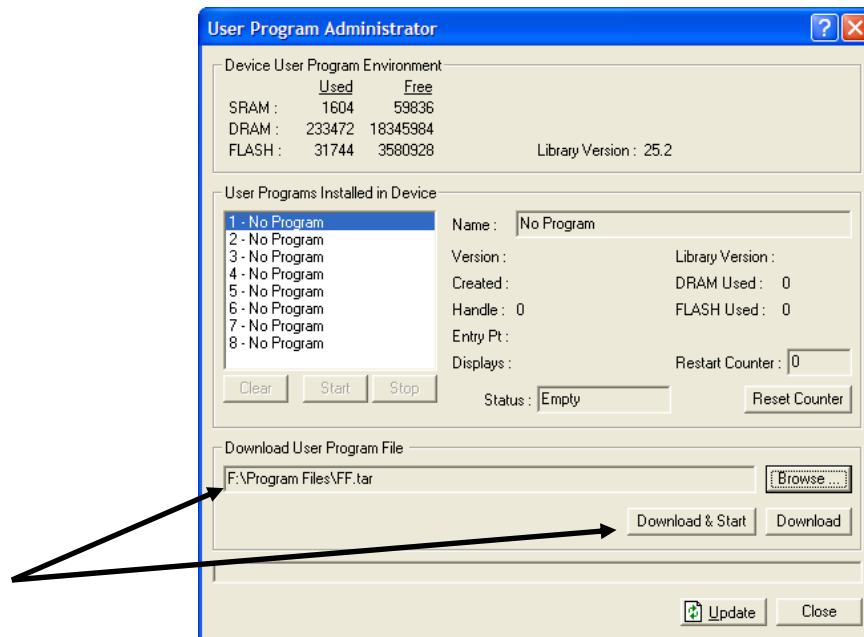

Figure 3. User Program Administrator
7. Click **Open** to select the program file. The User Program Administrator screen displays. As shown in *Figure 3*, note that the Download User Program File frame identifies the selected program and that the **Download & Start** button is active: